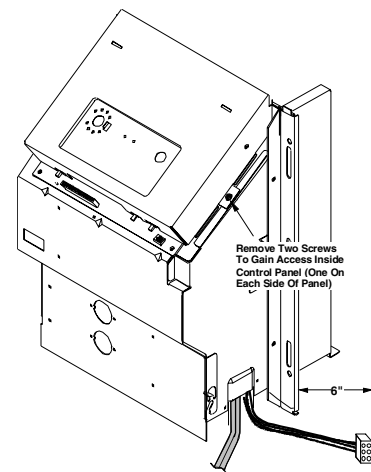
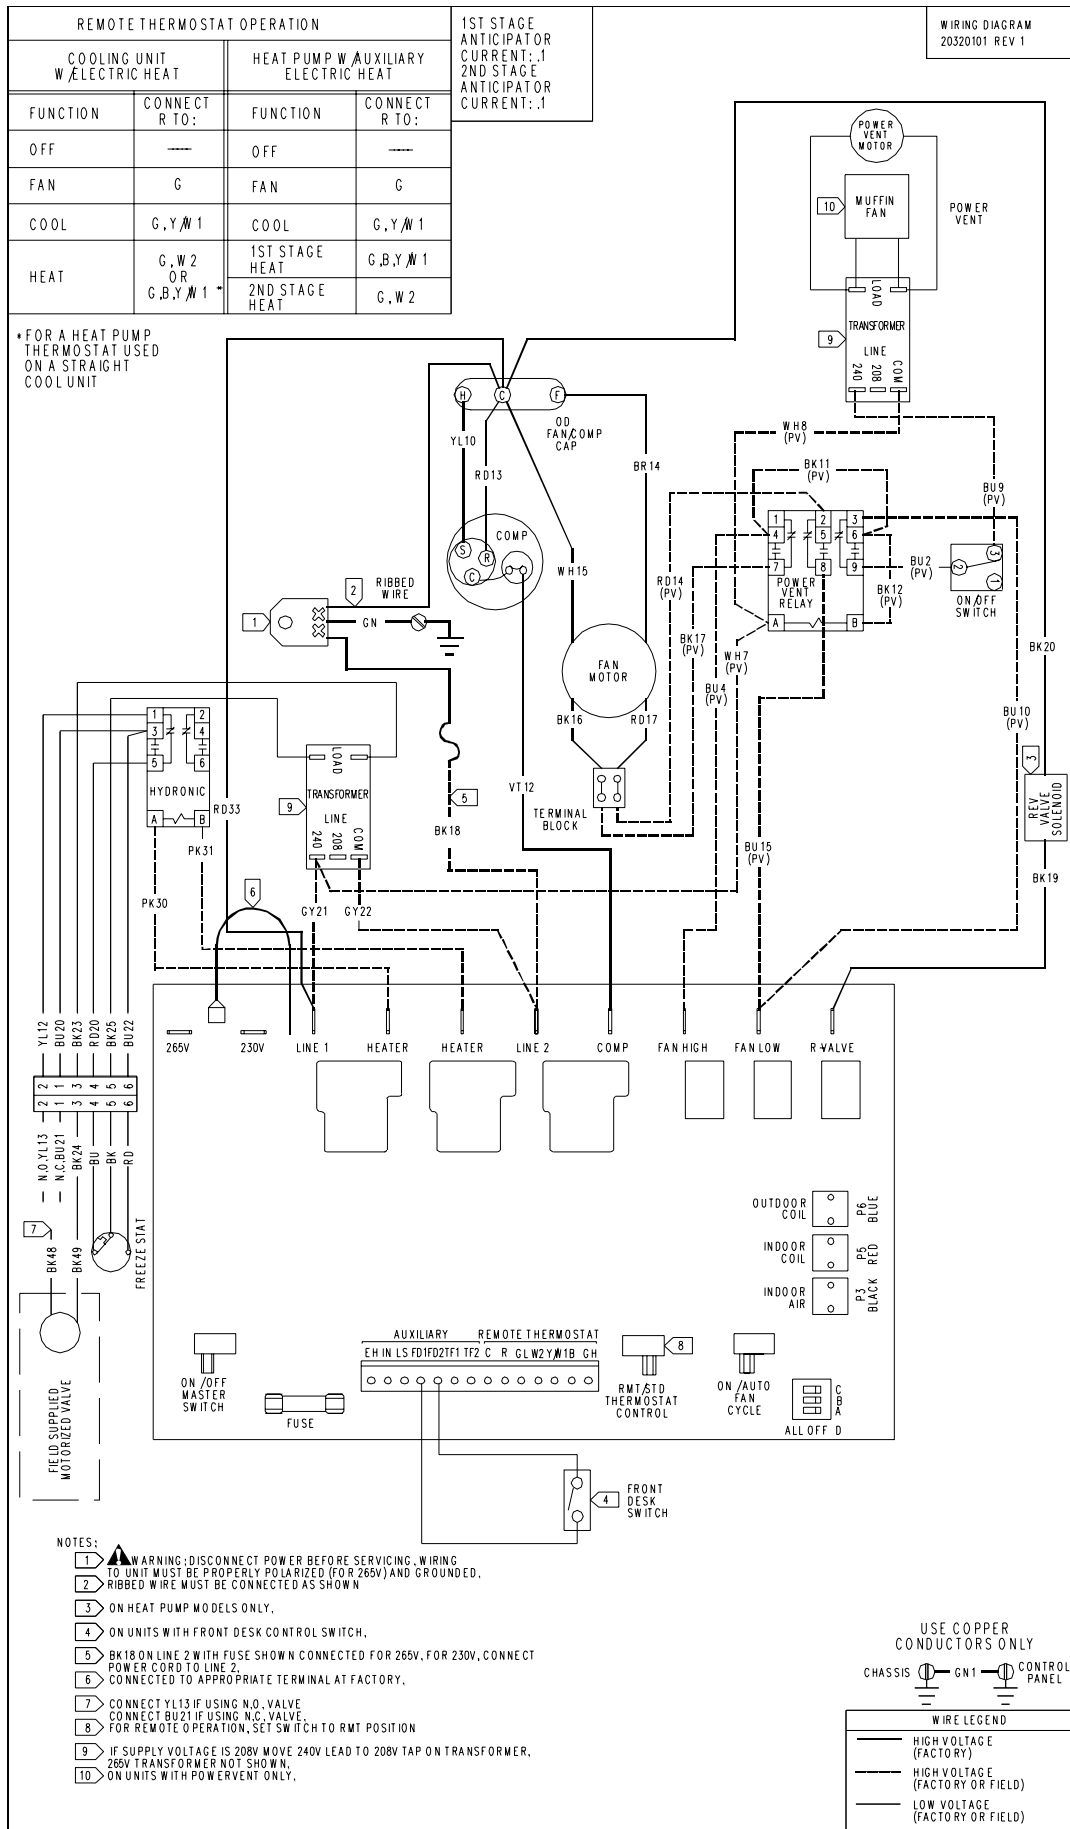

Figure 1
Figure 3
2. To gain access inside the control panel, after removing the knobs and escutcheon, remove the two screws holding panel in position. Tilt control panel forward, being careful not to pinch any wires (Figure 1).
NOTE: If the cross knockout is not located in the control panel, disconnect the terminals of the wire harness from the relay and transformer. Route the wires through the power cord opening in the basepan until about 6 to 8 inches of the harness protrudes from the opening (Figure 1). Reconnect the harness wire terminals to the relay and transformer as follows (Figure 3):
8. Connect the PK30 and PK31 wires from the relay to the heater terminal next to the Line 1 terminal and to the heater terminal next to the Line 2 terminal respectively, on the control board (Figure 3).
9. Remove the RD33 and Line 2 power cord (BK18 for 265 volt units) wires from the control board. Connect the GY21 and GY22 wires from the transformer to the Line 1 and Line 2 terminals, respectively. On the control board, reconnect the RD 33 and Line 2 power cord (BK18 for 265 volt units) wires to the piggy back terminals of the GY21 and GY22 wires on the control board, respectively (Figure 3).
Remove the WH7 wire from the Line 1 terminal on the control board and connect the WH7 wire to the GY21 wire at the transformer (Figure 3).